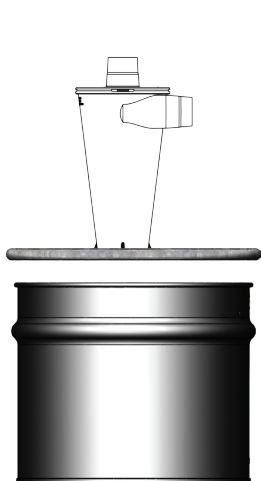

FIG. 4a
Put the Cyclone (A) and lid on top of your dust container and seal it airtight. [FIG. 4a].